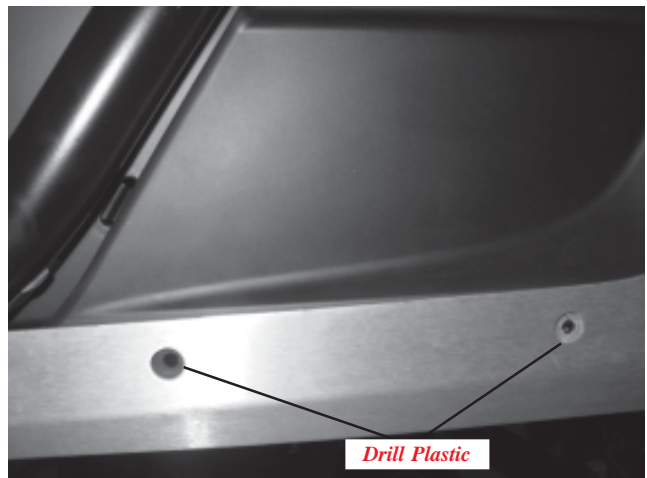

Figure 8
11. Align vehicle side panels to skid plates. Drill holes in plastic fender using a 1/4" drill bit. **(Figure 8)**
12. Install M6 u-nut (B3) to backing plates (A6). Install backing plates (A6) both sides. Install on left side by removing driver seat to access back side of panel. Install on right side by removing passenger seat and panel to gain access to backside of panel. **(Figure 8)**